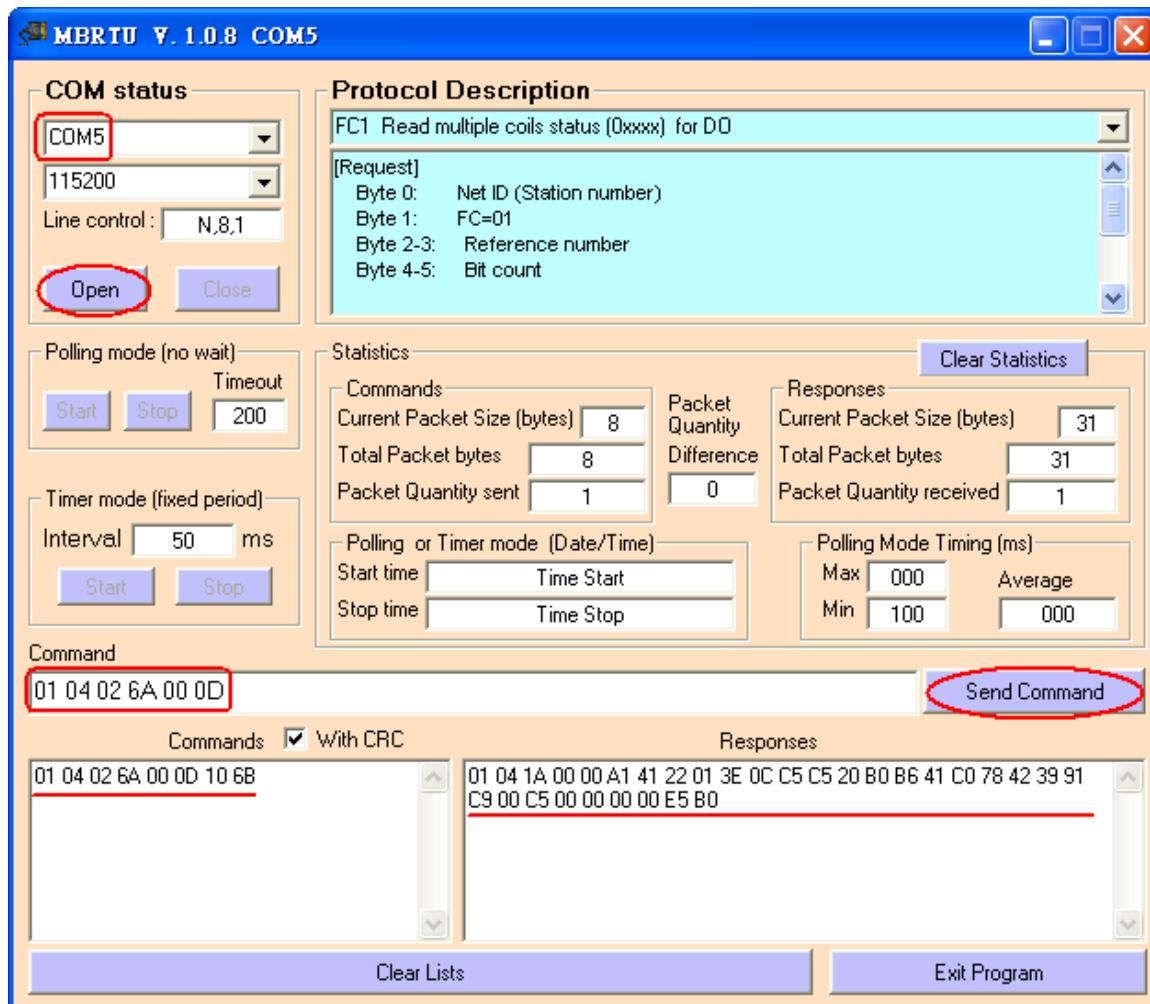

Figure 6-2 : Receive HART Command 3 data
- (3) Run “MB/RTU” tool. Set the com port settings the same with I-9720 (Baud Rate / Data Bits / Stop Bits / Parity) and then click “Open” button to connect to I-9720 (Figure 6-2).
- (4) Input “01 04 02 6A 00 0D” in “Command” field and click “Send Command” button to send the Modbus command. The HART command 3 data will be received in “Responses” field => “01 04 1A 00 00 A1 41 22 01 3E 0C C5 C5 20 B0 B6 41 C0 78 42 39 91 C9 00 C5 00 00 00 00 E5 B0” (Figure 6-2).